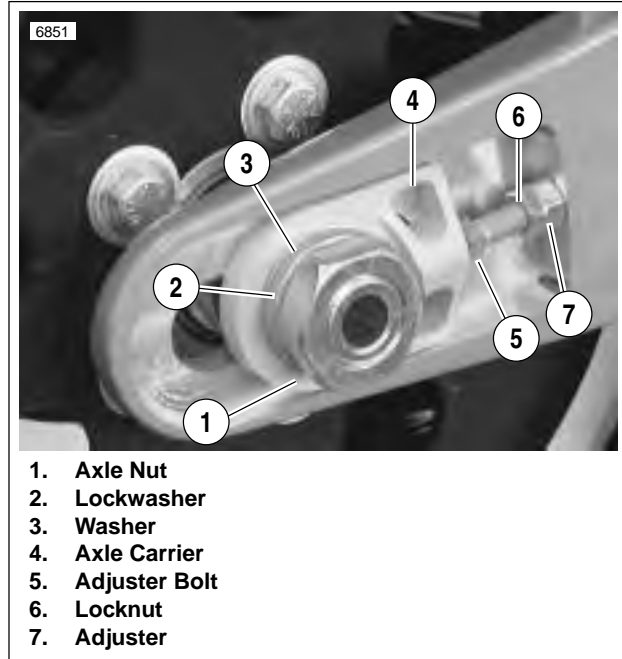
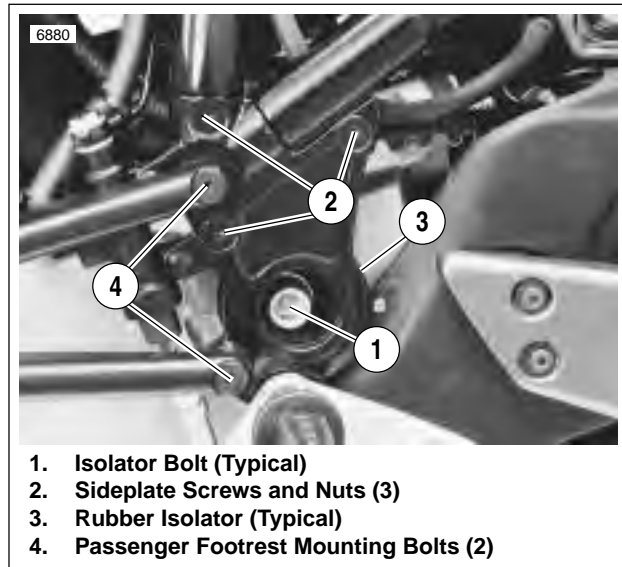

Figure 6-6. Rear Axle, Right Side
Figure 6-7. Sideplate (Typical)
- See Figure 6-6. Remove rear wheel.
- Remove rear axle nut (1) (metric), lockwasher (2), washer (3) and right side axle carrier (4).
- Hold axle adjuster bolt (5) with a 5/16 in. wrench. Loosen locknut (6) and axle adjusters (7). Repeat on left side.
- See Figure 6-7. Remove right isolator TORX bolt (1) and and isolator (3). See 2.20 REAR ISOLATORS.
- See Figure 6-7. Install sideplate and right side passenger footrest mount.
- Tighten sideplate screws (2) to 19 ft-lbs (26 Nm).
- Tighten footrest mount bolts (4) to 10-15 ft-lbs (14-20 Nm).